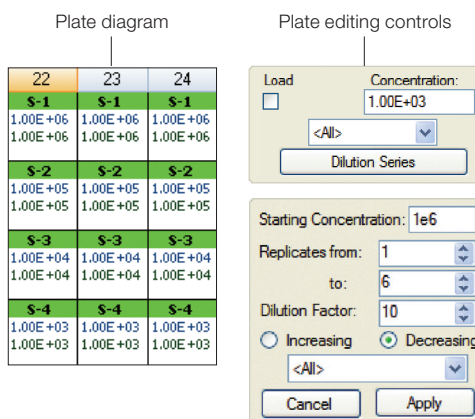

Fig. 4. Dilution Series window for creating a standard curve opens in the plate editing controls.
To enter the starting target concentration of one standard, select the wells loaded with Sample Type/Standard, enter a value under Concentration in the plate editing controls (Figure 4), designate All or a specific fluorophore, and then click the **Load** checkbox. Alternatively, to enter concentrations for the entire standard curve series at once:
1. Select the wells that have also been assigned consecutive replicate numbers and click **Dilution Series**. The Dilution Series window opens (Figure 4).